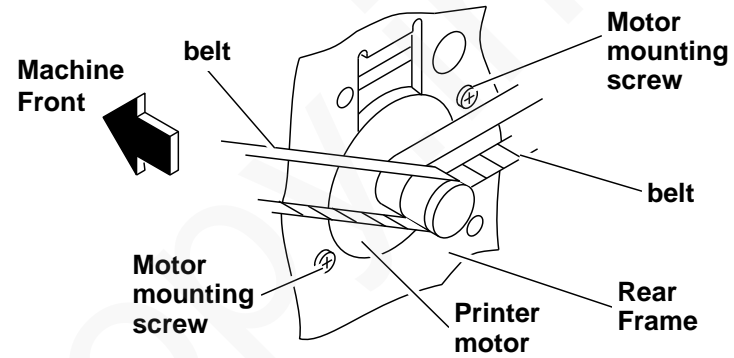

Figure 11. Printer motor removal
- c. Remove three belts from motor pulley (Figure 11).